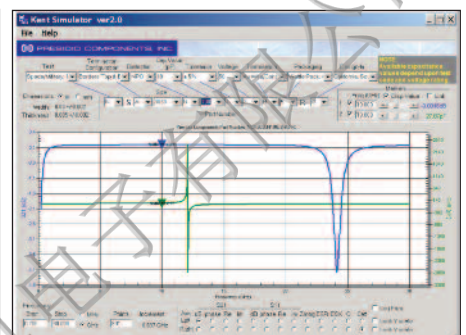

Fig. 6. Modeled S21 and Ceff of part NSA3030N100J2H5C-, Class 1 Dielectric
- ◆ Excellent low loss performance for high Q applications as demonstrated with a 10 pF NPO capacitor shown in Fig. 6 below.
When minimum loss is required, e.g. a low noise circuit, a high Q capacitor with Class I dielectric (NPQ or NPO) is recommended. Any parallel resonance frequency of the capacitor should be outside of the use frequency band. The best capacitor choice puts the series resonance at the band center (approximately $f_0 / 2$). See Fig. 6.